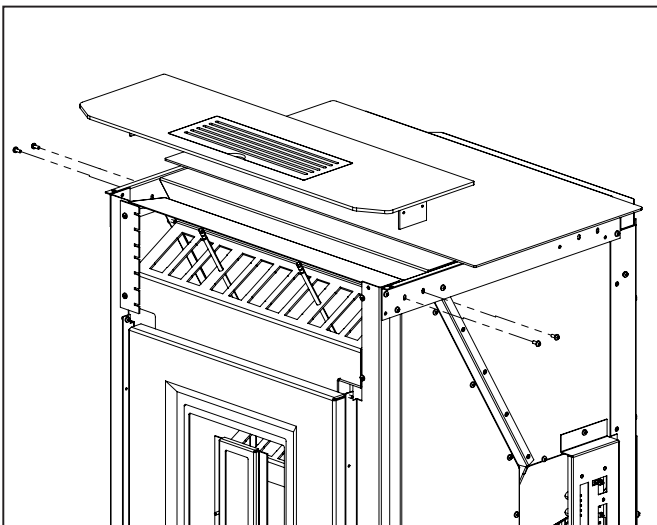

**Figure 3: Cabinet sides removal.**
3. After loosening the screws holding on the cabinet sides, slide the sides toward front of stove to remove, figure 3.